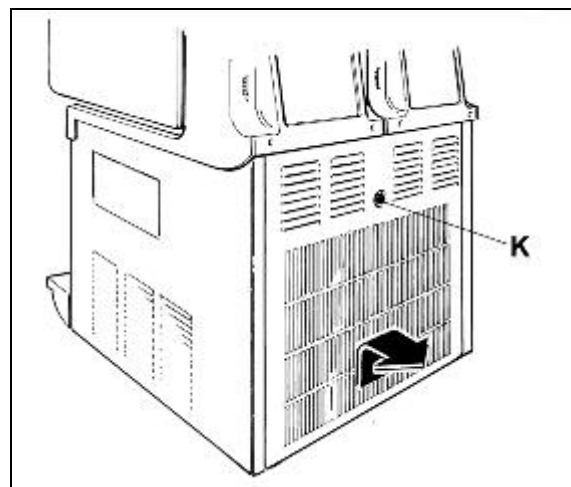

Fig. 28
- Unscrew the knob (K) in order to remove the back panel (see figure 28).